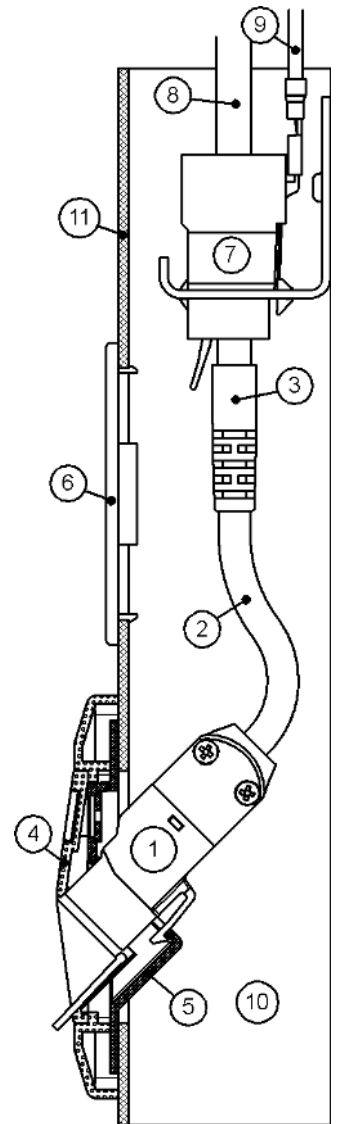
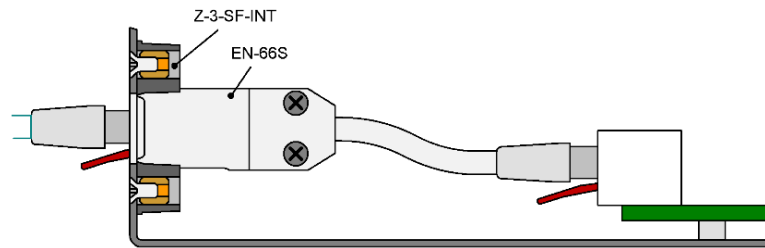
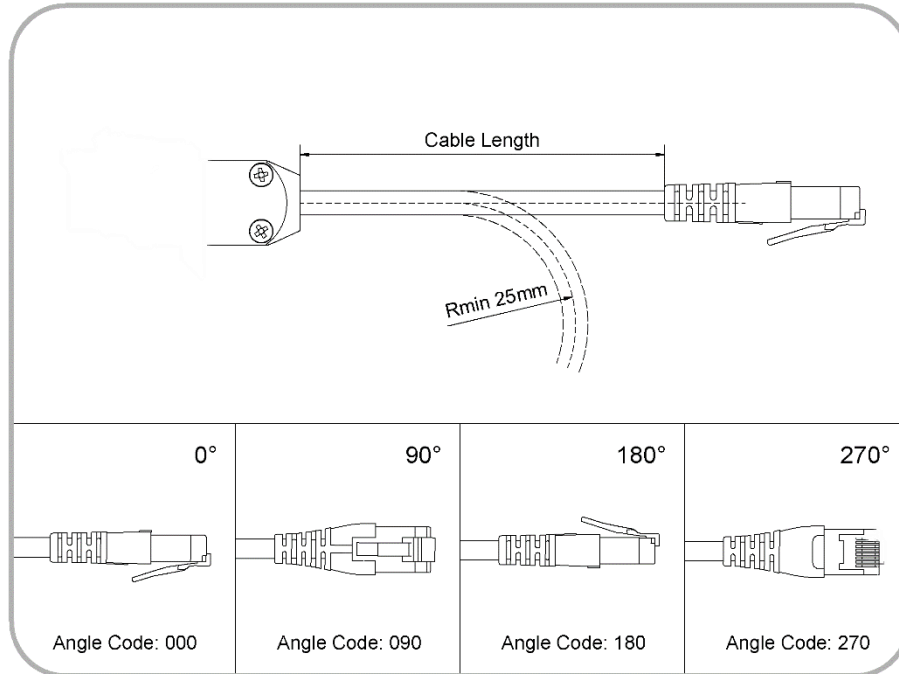
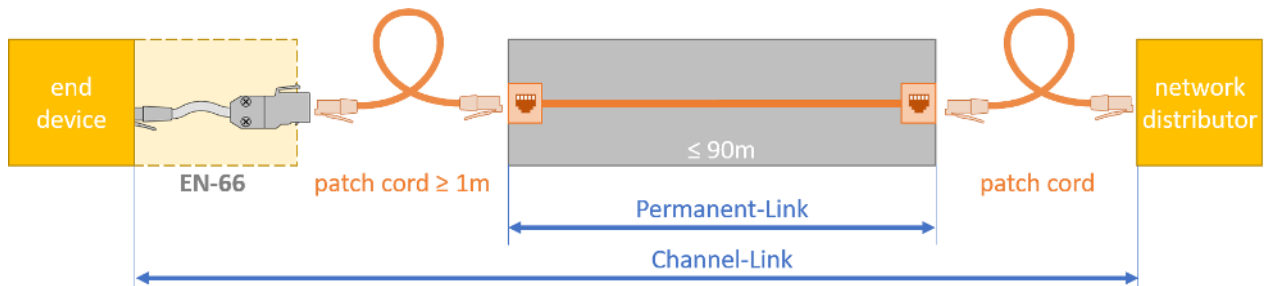

Figure 4 Keystone network isolator in a cable duct
Figure 5 Example configuration of the EN-66S installed in combination with the Snap-Fit accessory Z-3-SF-INT.
Figure 7. Cable length, as well as angle codes.
Figure 8 Recommended setup of the network isolator
Figure 4 shows a typical assembly within a cable duct (10), with cover (11). The Network Isolator EN-66K (1) is shown installed in a Keystone-compatible wall outlet, which usually consists of a support frame (5) and a plastic front panel (4). The RJ45 plug (3) of the Network Isolator is to be inserted into a RJ45 jack module termination (7) at the end of the permanently installed data cable (8). When retrofitting the Network Isolator EN-66K (1) into network channels, the existing RJ45 jack module from the wall outlet can be shifted back within the cable duct (10) and used as the connection to the Network Isolator.
The EN-66S Network Isolator is intended for incorporation into electronic devices, and it provides a Snap-Fit interface for this purpose. An example configuration is shown in Figure 5.
The transmission properties of permanent network installations fitted with EN-66 Network Isolators can be checked with cable certification devices which are suitable for testing electrically isolated cable sections. To be able to conduct such an inspection, the test equipment must be configured in an AC wire-map mode. The entire cable route, including the Network Isolator, can be tested to TIA/EIA-568 Cat 6A or ISO 11801 Class E_A as a Channel-Link. Testing of the cable shielding and the conductor resistance is not possible in this mode. If however, these tests are required, or if the quality of the cable route itself needs to be tested (without the Network Isolator), then testing can be performed by bypassing the Network Isolator, and connecting directly to the RJ45 socket ⑦, set back within the cable duct, as indicated in Figure 4.
The length of the flexible cable stub ② (see Figure 4) of the EN-66 Network Isolator is available in selected lengths from 30 mm to 10 m (inclusive). Refer to Figure 7, as well as the table in section 10.3. It is recommended that this length be kept to a minimum. When compared to a fixed installed cable, this flexible cable stub may be more susceptible to near end crosstalk (NEXT) and alien crosstalk (AXT). The flexible cable stub itself generates a small, but length-dependent amount of insertion loss (IL).
For flexible cable stub lengths between 30 mm and 500 mm (inclusive), the plug angle can be chosen, easing mechanical constraints in certain assembly configurations, and removing impermissible torsion strains from the cable assembly. Refer to Figure 7. The manufacturing tolerance for the plug angle is $\pm 20^\circ$.
When placing orders for EN-66, please specify the exact Order Code (OC). The order number is a hyphenated concatenation of the Article Number (A10068 for EN-66K, or A10069 for EN-66S), the Length Code for the desired cable length (see section 10.3 above), and the Angle Code for the desired plug angle (see Figure 7). For flexible cable stub lengths greater than 500 mm, the EN-66 will always be manufactured with a plug angle of 0° , and the Angle Code can be omitted for such orders.
Depending on the measurement parameter, the Ethernet performance of a network component is not only dependent on the hardware component itself, but also on the transmission link in which it is installed. For this reason, the network isolators are evaluated using a realistic transmission link, the so-called Channel-Link. In order to offer maximum protection for the end device, we recommend the structure of Figure 8.
The IL is fundamentally additive and the individual IL portions of all components of the system structure can be added up. Figure 5 and Figure 6 show the IL of the network isolator without the remaining Channel-Link components. Figure 7 and Figure 8 show the RL and the NEXT performance of the recommended structure on the end device side. The RL and the NEXT depend strongly on the structure of the system and do not behave additively with the rest of the structure.